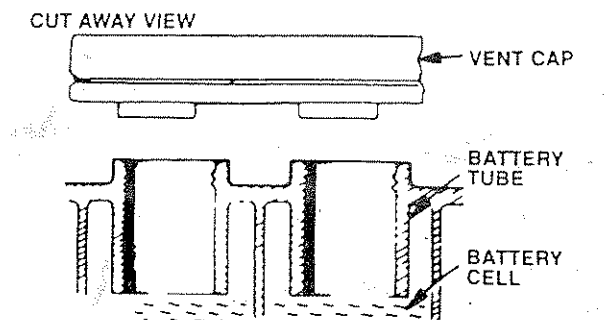

FIGURE 23
- Battery acid level in each battery cell should be even with bottoms of tubes in cells (Fig. 23). Add distilled water if necessary. **NOTE: DO NOT OVERFILL.**